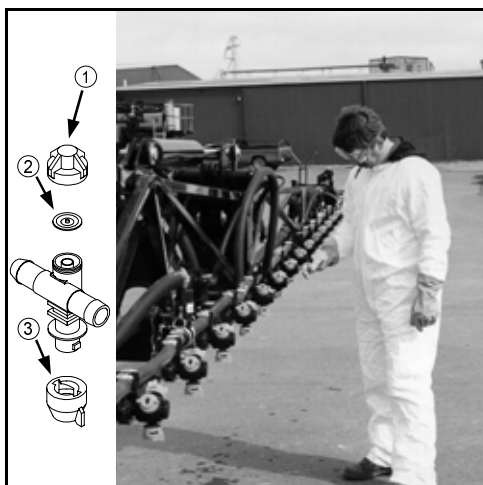

FIG 8.70
At the beginning of each season, or as required, remove a random sample of nozzle caps (fig. 8.70, item 3) and inspect the nozzle tips. If they are plugged or worn, clean or replace them.
At the beginning of each spray season, remove each nozzle cap (fig. 8.70, item 1) and inspect the diaphragm for wear or fit (fig. 8.70, item 2). Replace if necessary. Refer to accompanying manual containing nozzle information.